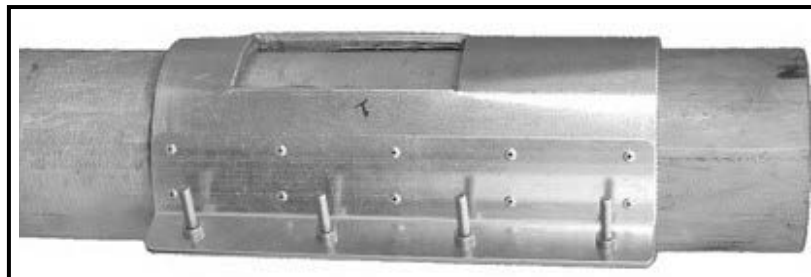

Figure 33: PDJ Jacket Installation
3. Install the jacket on the pipe as shown in *Figure 33* below. Tighten the clamping screws so that some fluid drips from the bottom of the jacket.